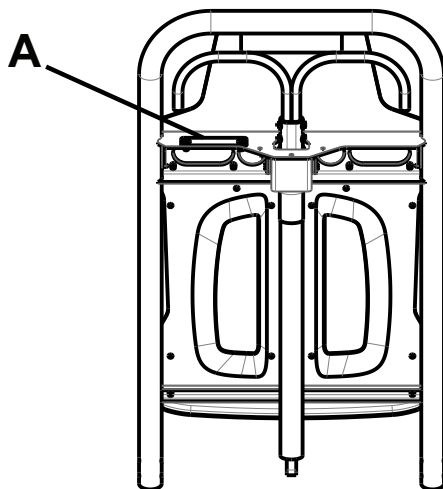

Figure 1 – Power-PRO 2 serial number location
See below for the cot (A) serial number location (Figure 1).